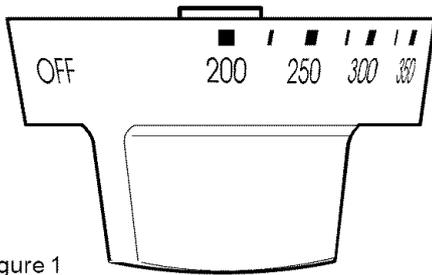

Figure 1
2. Remove broiler pan and insert, Figure 1.
6. Place broiler pan on rack; make sure the broiler pan and insert is positioned as shown, Figure 1. Be sure front of pan is positioned correctly in rack.